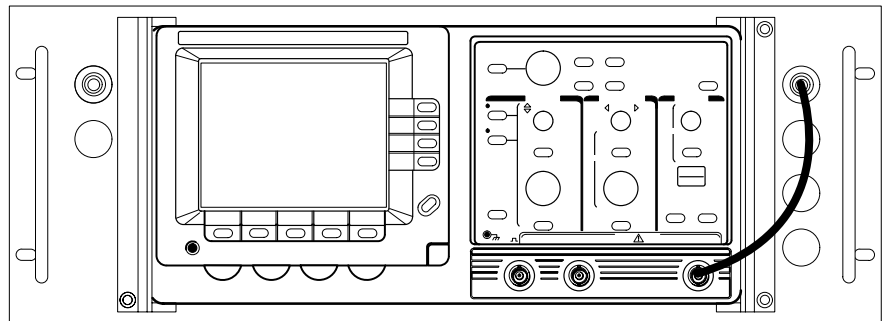

Figure 16: Front Panel Cabling
4. Attach a 10-inch BNC 50 Ω cable from the instrument to the installed BNC connectors (see Figure 16).